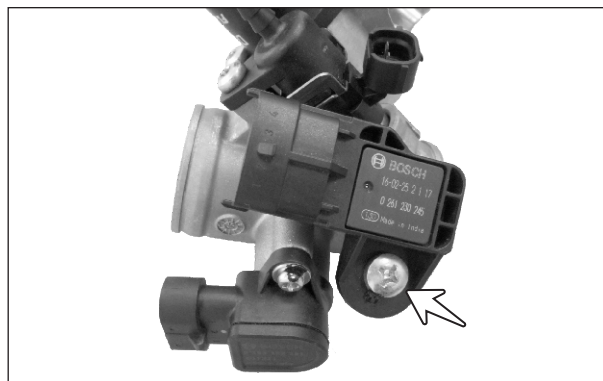

Fig. 4.12
- Remove the screw (1no.) from the T-map sensor and gently pull out the T-map sensor along with a 'O' ring. (Fig. 4.12)